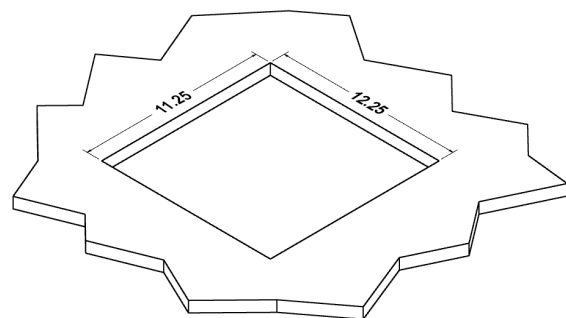

Figure 1 - Cutout Dimensions
**Step 1** - Cut a 11.25" x 12.25" opening in the "hard lid" ceiling or wall (special cutting tools may be required – ref. Figure 1).